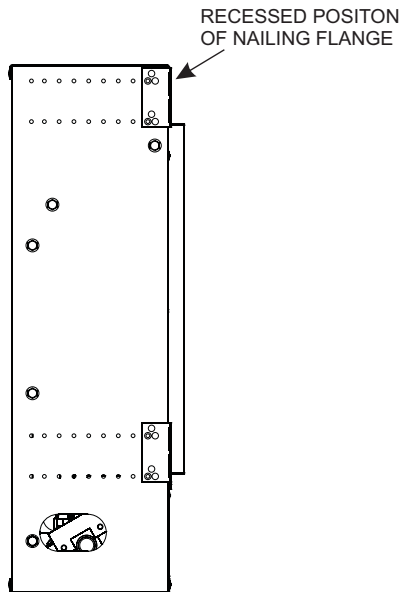

Figure 41
5. Screw nailing flanges into the fireplace with hex screws provided in hardware pack. See Figure 41.